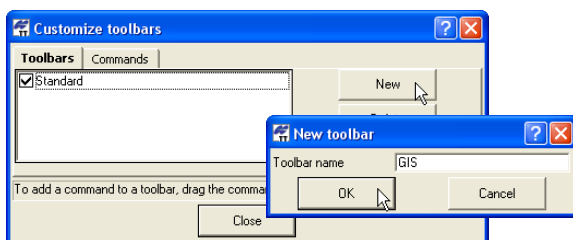

Figure 1-25. Add New Toolbar
2. Click **New** to add a new toolbar to the main window. Name the toolbar and click **OK** (Figure 1-25 on page 1-32).